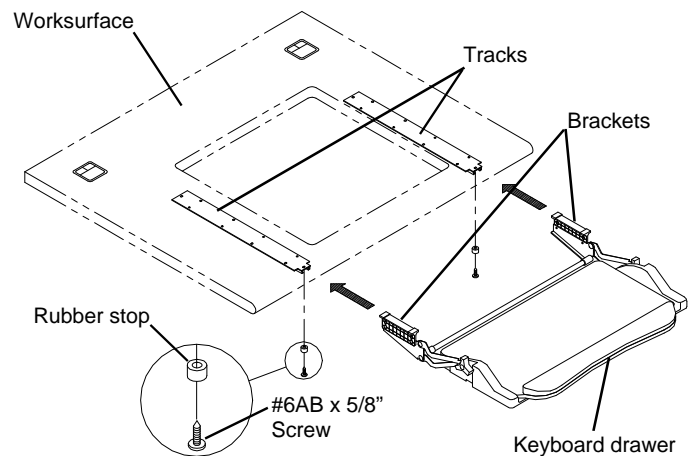

Figure 5
5. Install the **Keyboard Drawer** by sliding the two brackets into the Tracks installed in step 5. Push the Drawer all the way to the rear of the Tracks and install a Rubber Stop in the center hole at the front of each Track with the #6AB x 5/8" screws provided. See **Figure 5**.